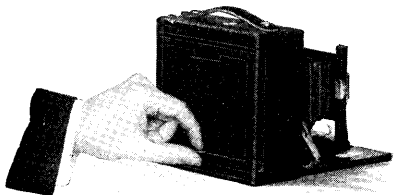

FIG. 2
9. To focus on ground glass push down on nicked catch at bottom of back, which releases the ground glass panel. See Fig. 2. Then open the shutter.